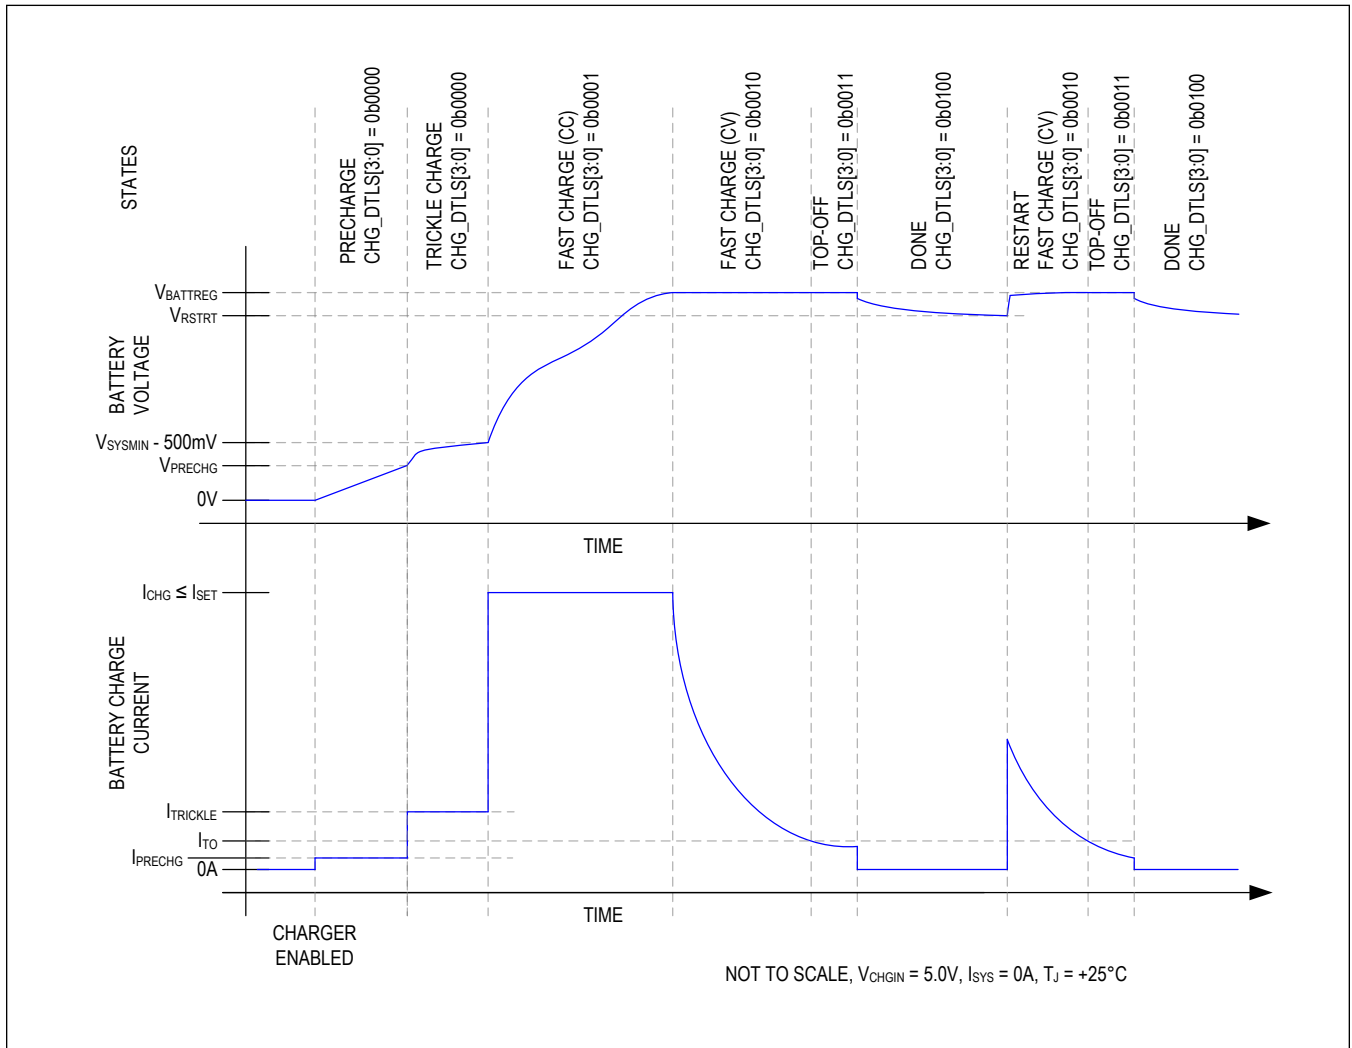
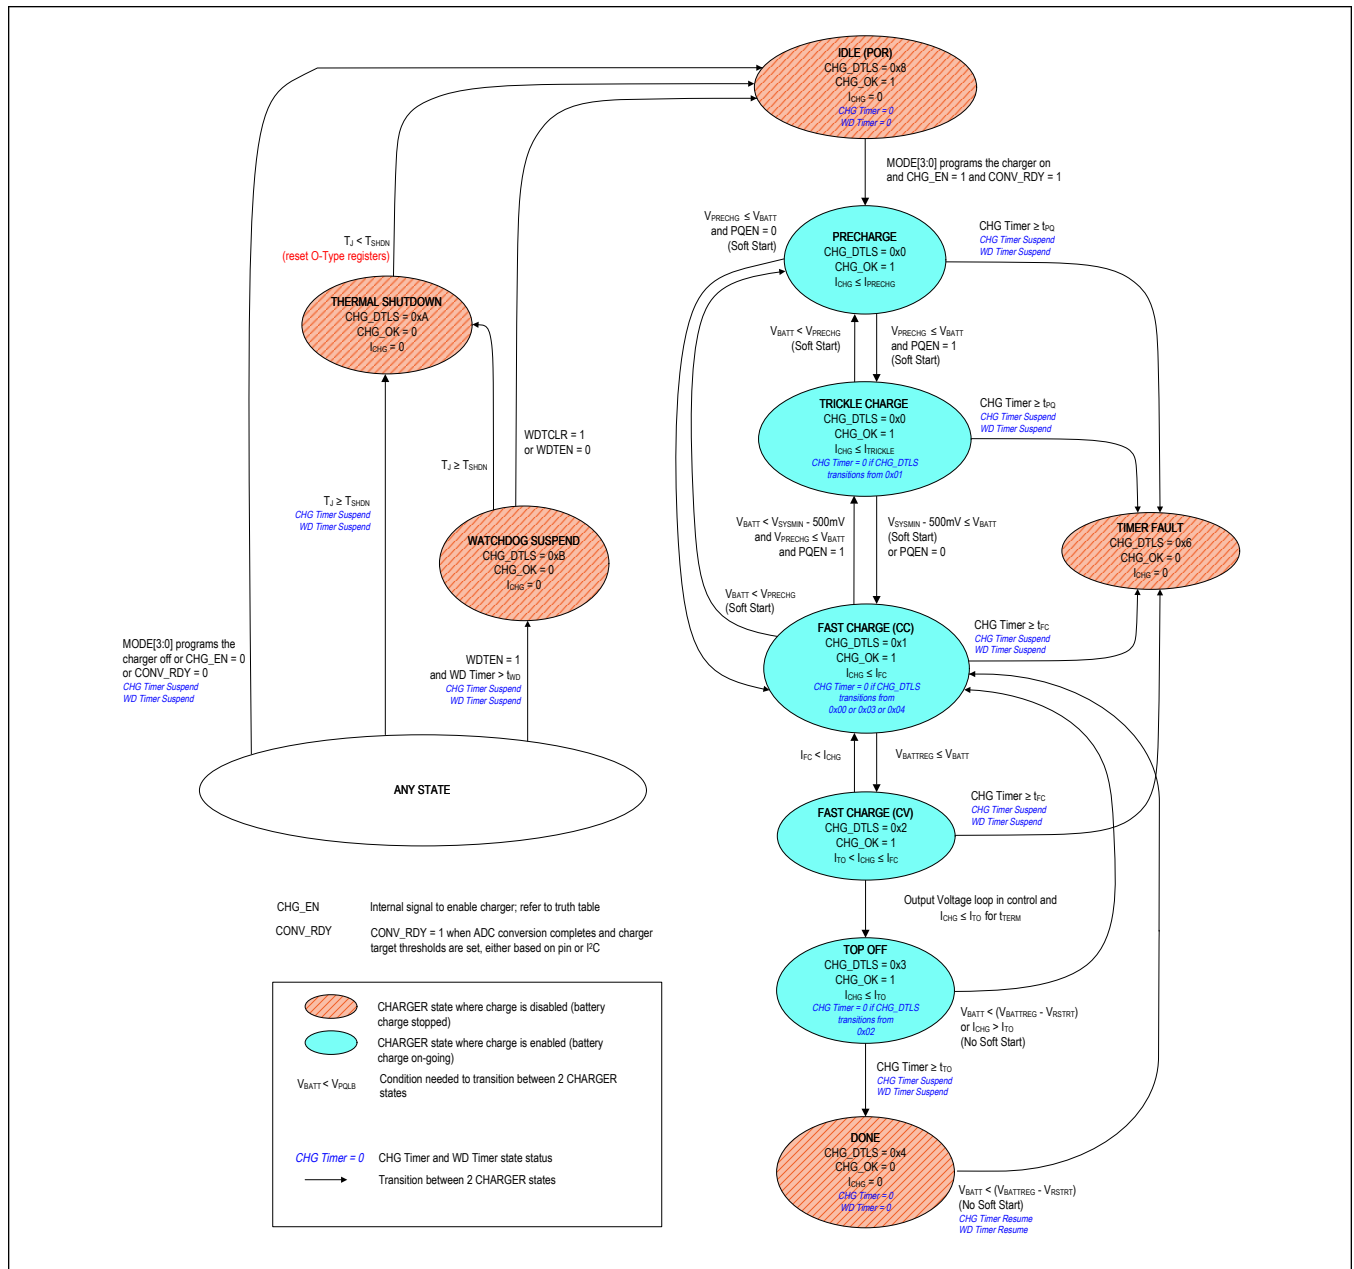

Figure 1. Li Battery Charge Profile
Figure 2. Charger State Diagram
The IC utilizes several charging states to safely and quickly charge batteries as shown in Figure 1 and Figure 2. Figure 1 shows an exaggerated view of a Li+/Li-Poly battery progressing through the following charge states when there is no system load and the die and battery are close to room temperature: Prequalification  $\rightarrow$  Fast-charge  $\rightarrow$  Top-off  $\rightarrow$  Done.
From any state shown in Figure 2, except thermal shutdown, the “no input power or charger disabled” state is entered whenever the charger is programmed to be off or the charger input CHGIN is invalid. After being in this state for  $t_{SCIDG}$ , CHG\_DTLS is set to 0x08 and CHG\_OK is set to 1. A CHG\_I interrupt is generated if CHG\_OK was 0 previously.
As shown in Figure 2, the charger enters the precharge state when the battery voltage is less than  $V_{PRECHG}$ . After being in this state for  $t_{SCIDG}$ , a CHG\_I interrupt is generated if CHG\_OK was 0 previously, CHG\_OK is set to 1, and CHG\_DTLS is set to 0x00. In the precharge state, charge current into the battery is  $I_{PRECHG}$ .
As shown in Figure 2, the charger state machine is in trickle charge state when  $V_{PRECHG} < V_{BATT} < V_{SYSMIN} - 500mV$ . After being in this state for  $t_{SCIDG}$ , a CHG\_I interrupt is generated if CHG\_OK was 0 previously, CHG\_OK is set to 1, and CHG\_DTLS = 0x00.
As shown in Figure 2, the charger enters the fast-charge constant current (CC) state when  $V_{\text{SYSTEMIN}} - 500\text{mV}$  (typ) <  $V_{\text{BATT}} < V_{\text{BATTREG}}$ . After being in the fast-charge CC state for  $t_{\text{SCIDG}}$ , a CHG\_I interrupt is generated if CHG\_OK was 0 previously, CHG\_OK is set to 1, and CHG\_DTLS = 0x01.
As shown in Figure 2, the charger enters the fast-charge constant voltage (CV) state when the battery voltage rises to  $V_{\text{BATTREG}}$  from the fast-charge CC state. After being in the fast-charge CV state for  $t_{\text{SCIDG}}$ , a CHG\_I interrupt is generated if CHG\_OK was 0 previously, CHG\_OK is set to 1, and CHG\_DTLS = 0x02.
In the fast-charge CV state, the battery charger maintains  $V_{\text{BATTREG}}$  across the battery and the charge current is less than or equal to  $I_{\text{FC}}$ . As shown in Figure 1, charger current decreases exponentially in this state as the battery becomes fully charged.
As shown in Figure 2, the top-off state can only be entered from the fast-charge CV state when the charger current decreases below  $I_{TO}$  for  $t_{TERM}$ . After being in the top-off state for  $t_{SCIDG}$ , a CHG\_I interrupt is generated if CHG\_OK was 0 previously, CHG\_OK is set to 1, and CHG\_DTLS = 0x03. In the top-off state the battery charger maintains  $V_{BATTREG}$  across the battery and typically the charge current is less than or equal to  $I_{TO}$ .
As shown in Figure 2, the battery charger enters its done state after the charger has been in the top-off state for  $t_{TO}$ . After being in this state for  $t_{SCIDG}$ , a CHG\_I interrupt is generated only if CHG\_OK was 0 previously, CHG\_OK is set to 0, and CHG\_DTLS = 0x04.
The battery charger provides both a charge timer and a watchdog timer to ensure safe charging. As shown in Figure 2, the charge timer prevents the battery from charging indefinitely. The time that the charger is allowed to remain in its prequalification states is  $t_{PQ}$ . The time that the charger is allowed to remain in the fast-charge CC and CV states is  $t_{FC}$  which is programmable with FCHGTIME. Finally, the time that the charger is in the top-off state is  $t_{TO}$  which is programmable with TO\_TIME. Upon entering the timer fault state, a CHG\_I interrupt is generated without a delay, CHG\_OK is cleared, and CHG\_DTLS = 0x06.
The charger is off in the timer fault state. The charger can exit the timer fault state when the charger is programmed to be off then on again through the MODE bits or when DISQBAT pin is toggled from L-H-L. Alternatively, the charger input can be removed and re-inserted to exit the timer fault state (see the “ANY STATE” bubble in Figure 2).
The battery charger provides both a charge timer and a watchdog timer to ensure safe charging. As shown in Figure 2, the watchdog timer protects the battery from charging indefinitely in the event that the host hangs or otherwise cannot communicate correctly. The watchdog timer is disabled by default with  $WDTEN = 0$ . Enable the feature by setting  $WDTEN = 1$ . With watchdog timer enabled, the host controller must reset the watchdog timer within the timer period ( $t_{WD}$ ) in order for the charger to operate properly. Reset the watchdog timer by programming  $WDTCLR = 0x01$ .
As shown in Figure 2, the state machine enters the thermal shutdown state when the junction temperature ( $T_J$ ) exceeds the device's thermal-shutdown threshold ( $T_{SHDN}$ ). When  $T_J$  is close to  $T_{SHDN}$ , the charger would have already folded back the input current to 0A (see the Thermal Foldback section for more details), so the charger and the DC-DC are effectively off. Upon entering this state,  $CHG\_I$  interrupt is generated if  $CHG\_OK$  was 1 previously,  $CHG\_OK$  is cleared, and  $CHG\_DTLS = 0x0A$ .